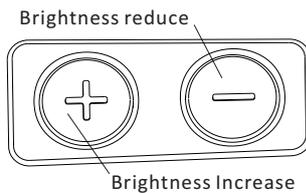

Fig 4
1. Turn on: Press brightness increase button "+" or brightness decrease button "-" one time, (see Fig4), the power is turned on.